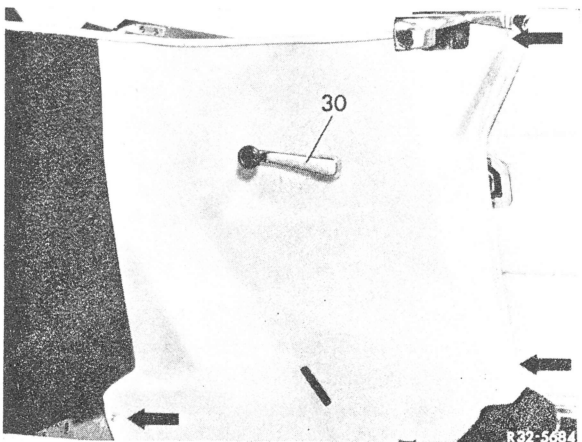

Fig. 3
6 Remove softtop cover flap locking lever (30) and unscrew trim panel (see arrows in Fig. 3).